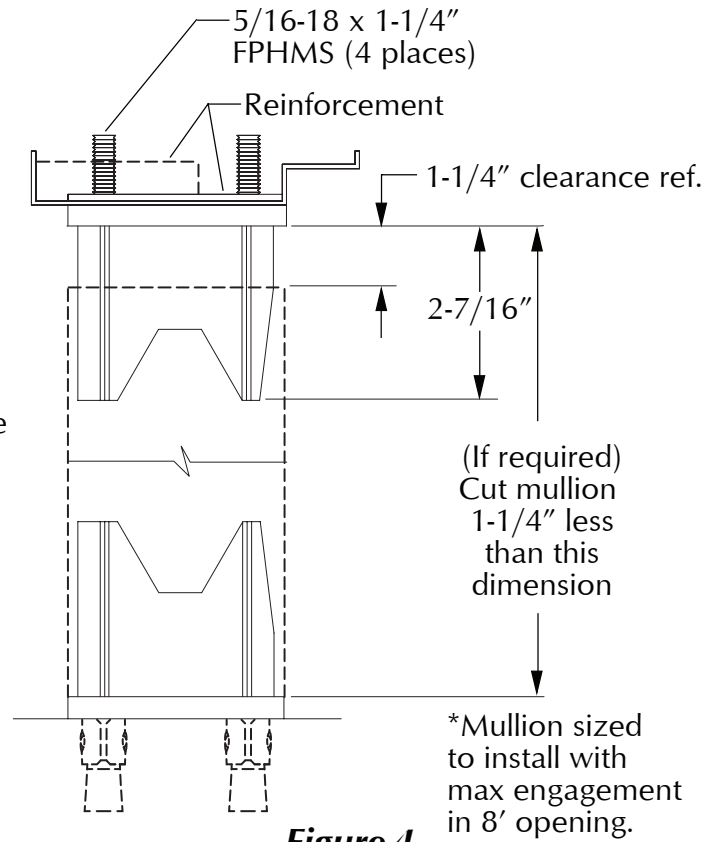

Figure 4
- Line up and install top mullion fitting with center of door opening and flush with closed doors. If stop is less than 3-1/2" wide, a filler block must be provided by others. See Figure 4.
- If required, cut mullion body from the top to provide clearance as shown in Figure 4. Be sure mullion is seated on bottom fitting.